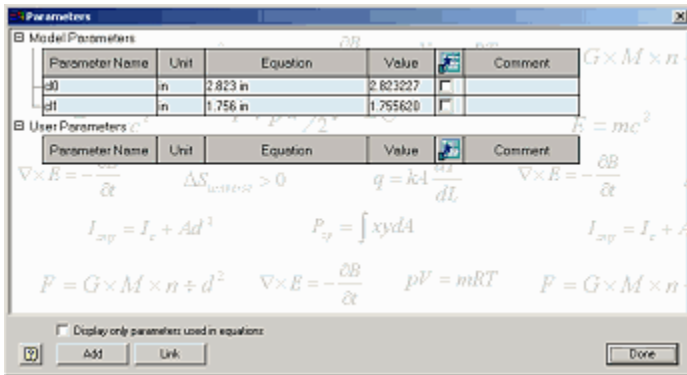

Figure 3: The Parameters dialog box.
8. From the Tools menu, choose Parameters, or choose the Parameters button on the Standard toolbar. The Parameters dialog box displays, as shown in Figure 3.